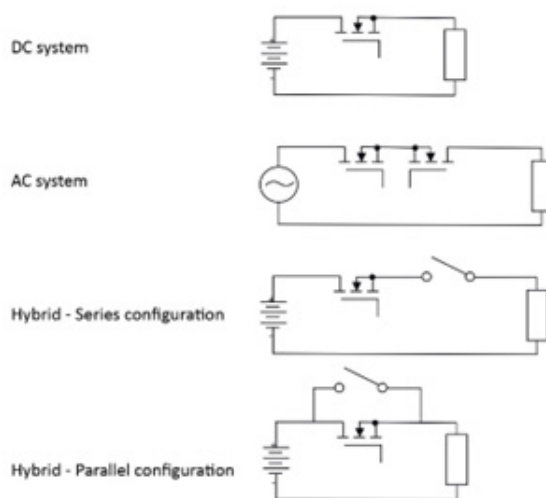

Figure 6: Various configurations of a solid-state breaker
*Figure 6* demonstrates the various configurations that utilize solid-state breakers.